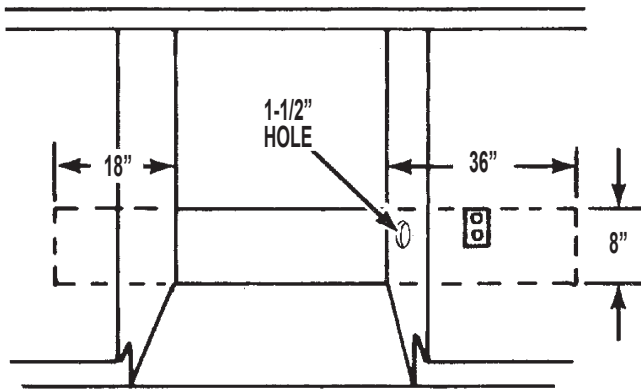

FIGURE 1
1. The receptacle outlet should be within a reasonable distance of the dishwasher in order for the cord to reach without being strained. See dotted lines in figure 1.
2. If necessary, cut a 1-1/2" (4cm) diameter hole in either of the cabinet side walls to allow the new cord to pass through. See figure 1.